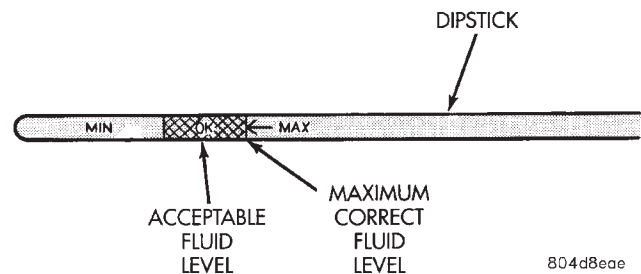

Fig. 13 Dipstick Fluid Level Marks—Typical
- (1) Transmission fluid must be at normal operating temperature for accurate fluid level check. Drive vehicle if necessary to bring fluid temperature up to normal hot operating temperature of 82°C (180°F).
- (2) Position vehicle on level surface.
- (3) Start and run engine at curb idle speed.
- (4) Apply parking brakes.
- (5) Shift transmission momentarily into all gear ranges. Then shift transmission back to Neutral.
- (6) Clean top of filler tube and dipstick to keep dirt from entering tube.
- (7) Remove dipstick (Fig. 13) and check fluid level as follows: